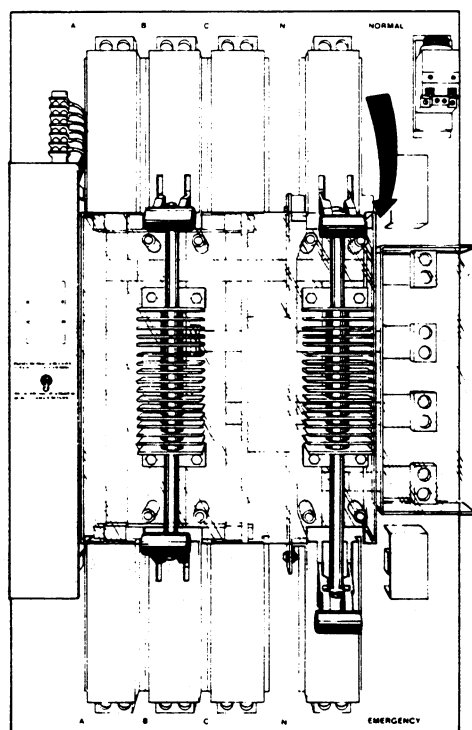

FIGURE 6.
3. Pull the top neutral pole handle all the way down, as shown in Figure 6, connecting the load neutral to the emergency neutral and disconnecting it from the normal power source.